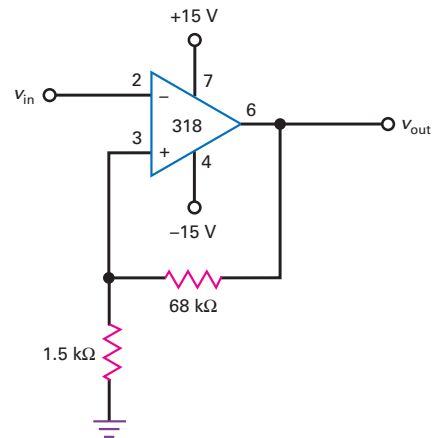

Figure 36-40
- 36.8 If $V_{sat} = 13.5$ V in Fig. 36-40, what are the trip points and hysteresis?